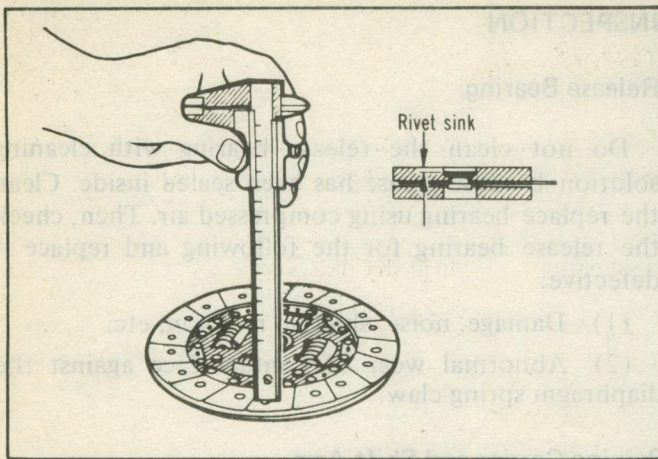

Fig. 8 Facing Wear Check
(3) Check the torsion spring for damage.
(4) Check the facing for wear. Replace an excessively worn facing. The wear is measured from the surface of the facing to the rivet head. (Fig. 8)